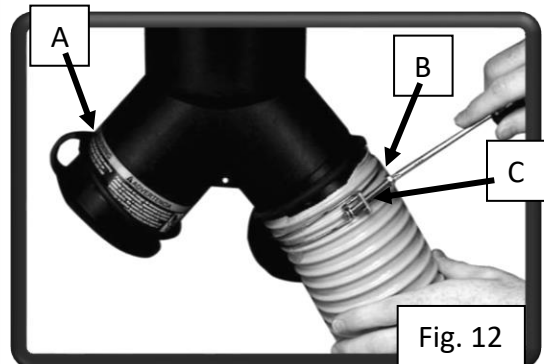

Fig. 12
- 1) Place the open end (A) of the intake cap rings on the ends of each dust intake port before attaching the hose.
- 2) Loosely attach the hose clamp (B) Fig. 12 around one end of the flexible hose. Attach the hose to the dust intake port with a Philips screwdriver (C). Attach the remaining clamp to the other end of the flexible hose and to the woodworking machine.